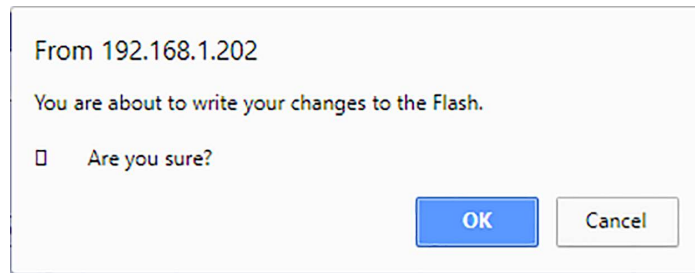

Figure 5-11 - Download Setup File
5. To download an XML file containing all of the settings defined in the Setup tabs to the local machine, click **Download Setup to PC**. The following dialog appears (see Figure 5-11):